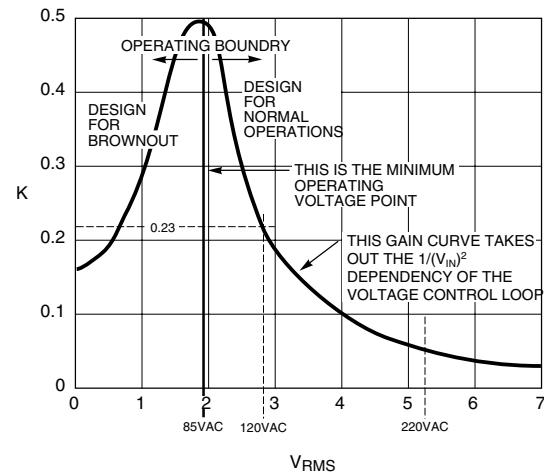

Figure 6. K-factor. Gain Modulator gain with respect to the voltage at V_{RMS} .
The ML4821 gain modulator responds linearly to current injected into the I_{SINE} pin, and in an inverse-square fashion to voltage on the V_{RMS} pin. At very low voltages on the V_{RMS} pin, the gain modulator enforces a power limit, or "brown-out protection", upon the overall PFC circuit (Figures 6 and 7). The rectified line input sine wave is converted to a current for the I_{SINE} input via a dropping resistor. In this way, most ground noise produces an insignificant effect on the reference to the PWM comparator. This gives the ML4821 a high degree of immunity to the disturbances common in high-power switching circuits.
Figure 6 shows the gain adjuster (K) with respect to the voltage at V_{RMS} . The curve has been separated in two parts. The right hand part is for operation under normal conditions in the voltage range from minimum line voltage to maximum line voltage (90VAC to 260VAC). 85VAC on the curve has been chosen to account for tolerances. Under normal operating conditions as input voltage decreases the gain increases compensating for the drop in the loop gain.